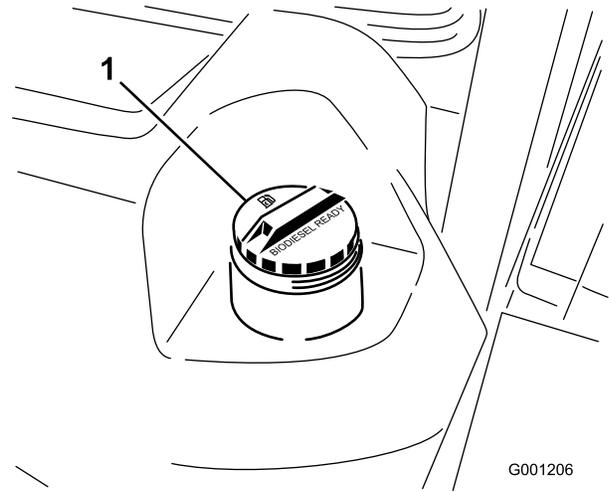

Figure 25
2. Using a clean rag, clean area around fuel tank cap. Remove cap from the fuel tank (Figure 25).